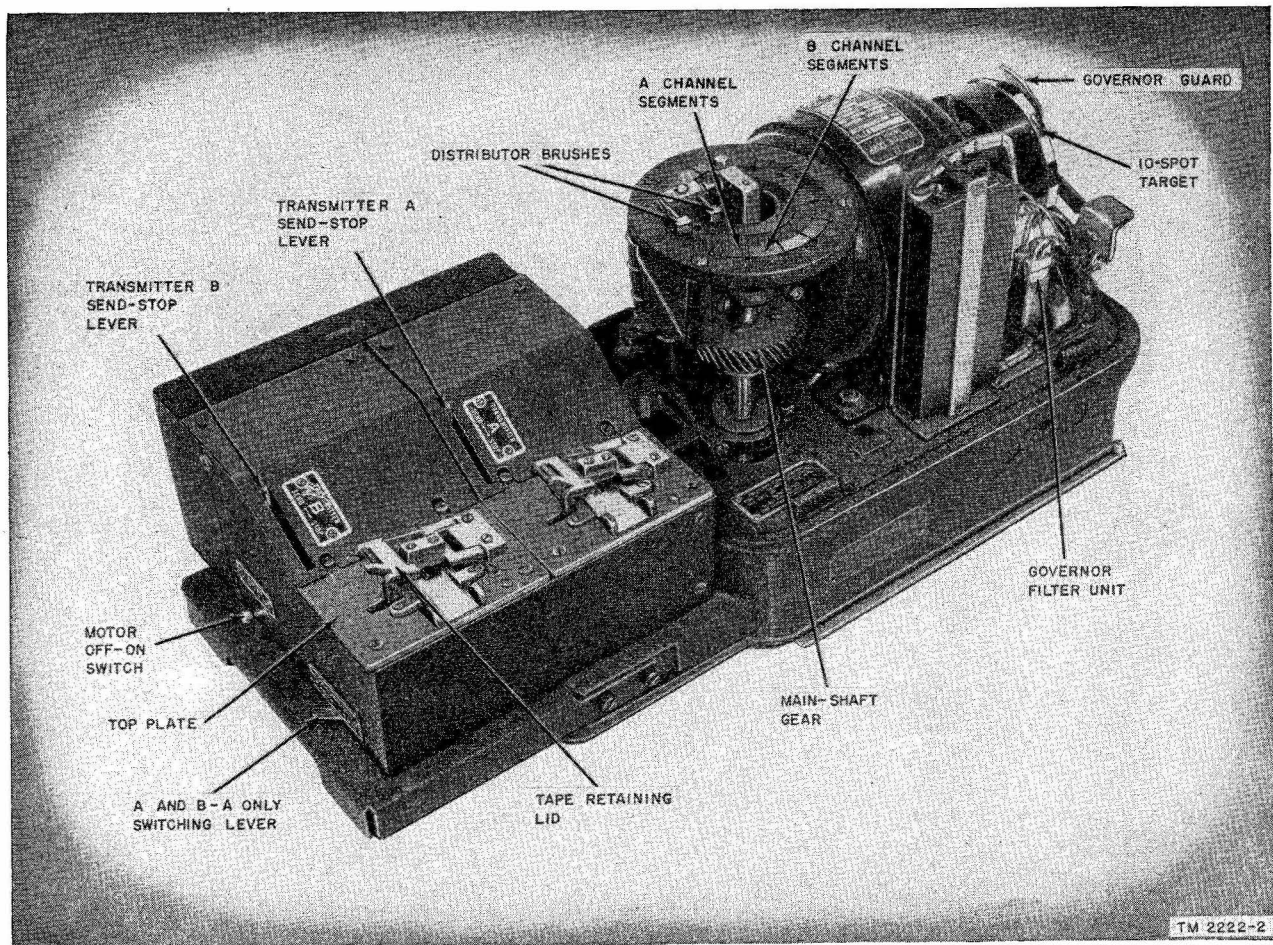

Figure 4. Transmitter Distributor TT-26/FG (two-channel), cover removed.
a. A two-channel transmitter distributor (fig. 4) includes two tape sensing and two transmitting mechanisms and a special distributor commutator. This commutator has 13 segments: 5 pairs of segments for the transmission of intelligence impulses, a start segment, a stop segment, and an X segment which is located between the start and stop segments. A single-channel transmitter distributor has only seven segments. Since no distributor clutch is provided, the distributor brushes rotate continu-